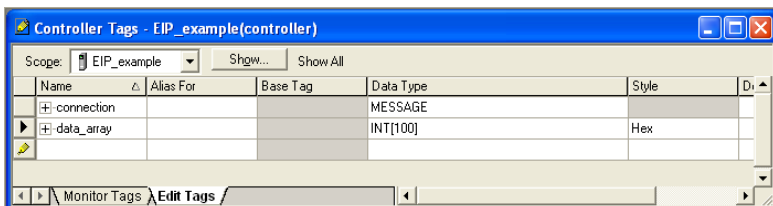

Figure 93: Create New Tags
- The "Controller Tags" window appears. Refer to Figure 93.